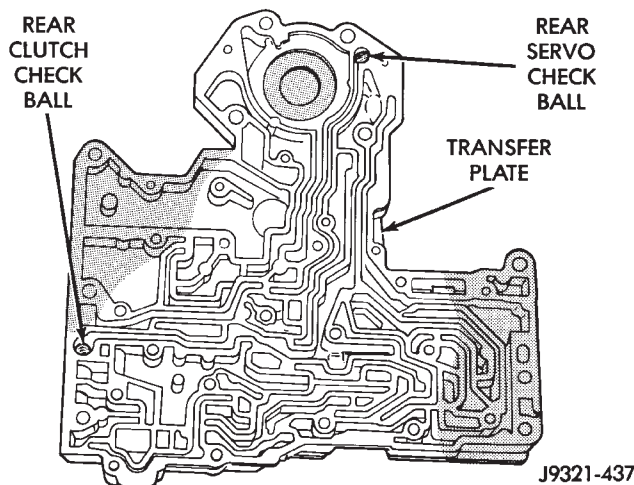

Fig. 67 Rear Clutch And Rear Servo Check Ball Locations
(36) Remove rear clutch and rear servo check balls from transfer plate. Note check ball location for assembly reference (Fig. 67).